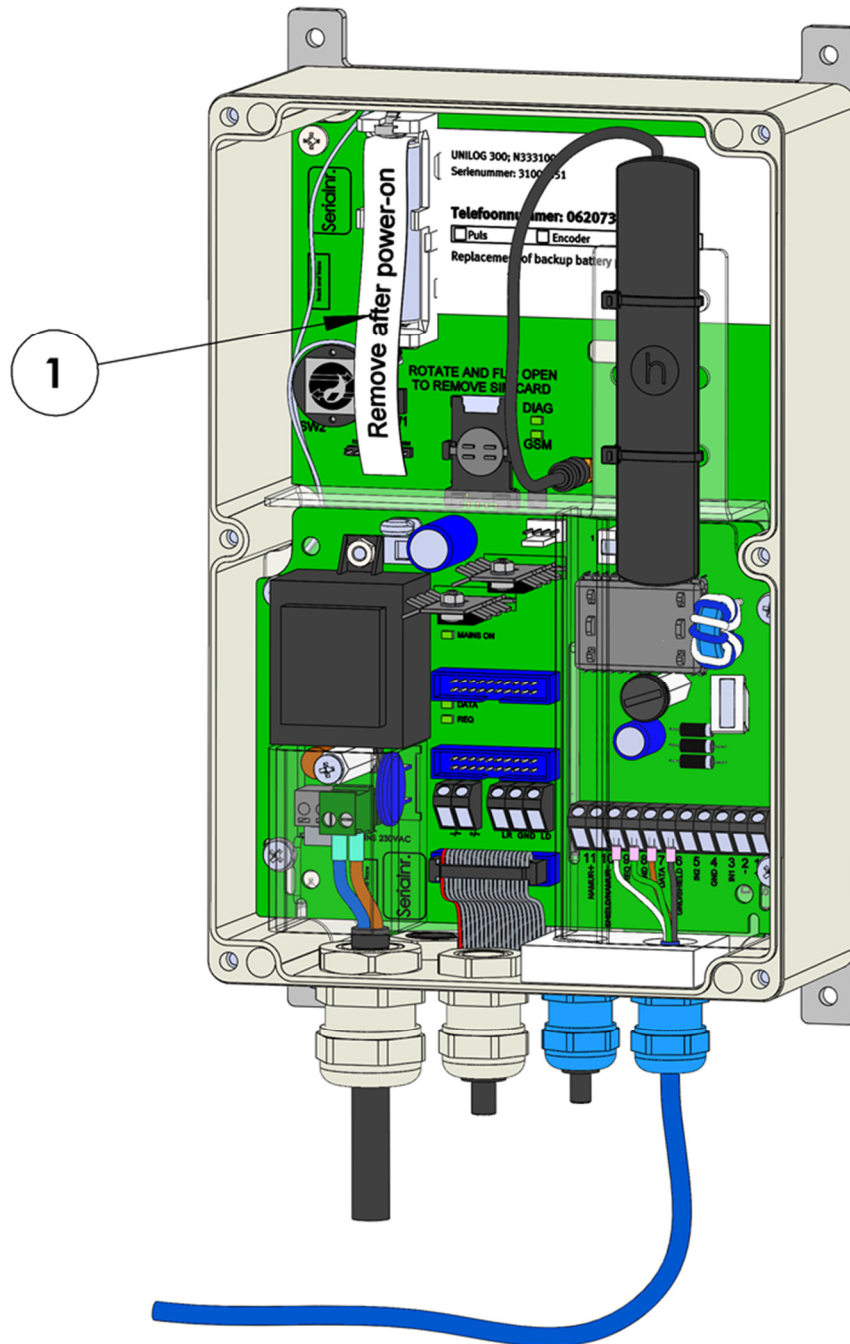

Figure 9. Version N34
At delivery the back-up battery is disconnected by means of a tag. Remove this tag after the UNILOG 300 is connected to mains, see pos. 1, figure 9.